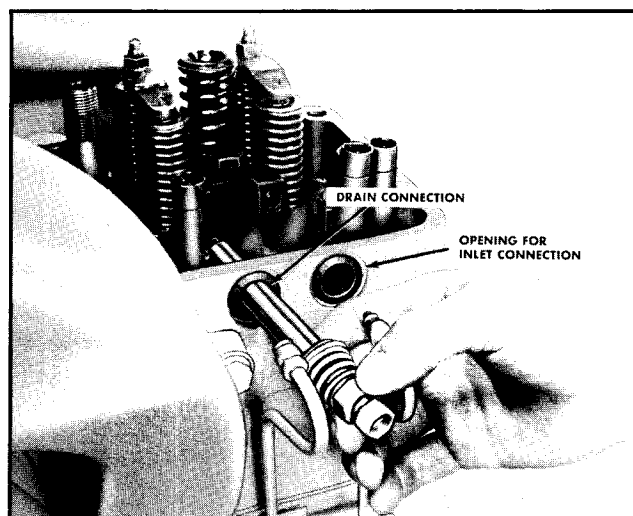

Fig. 4-18. Removing fuel drain connection
3. Remove the fuel inlet and drain connections from the injector body. Fig. 4-18.